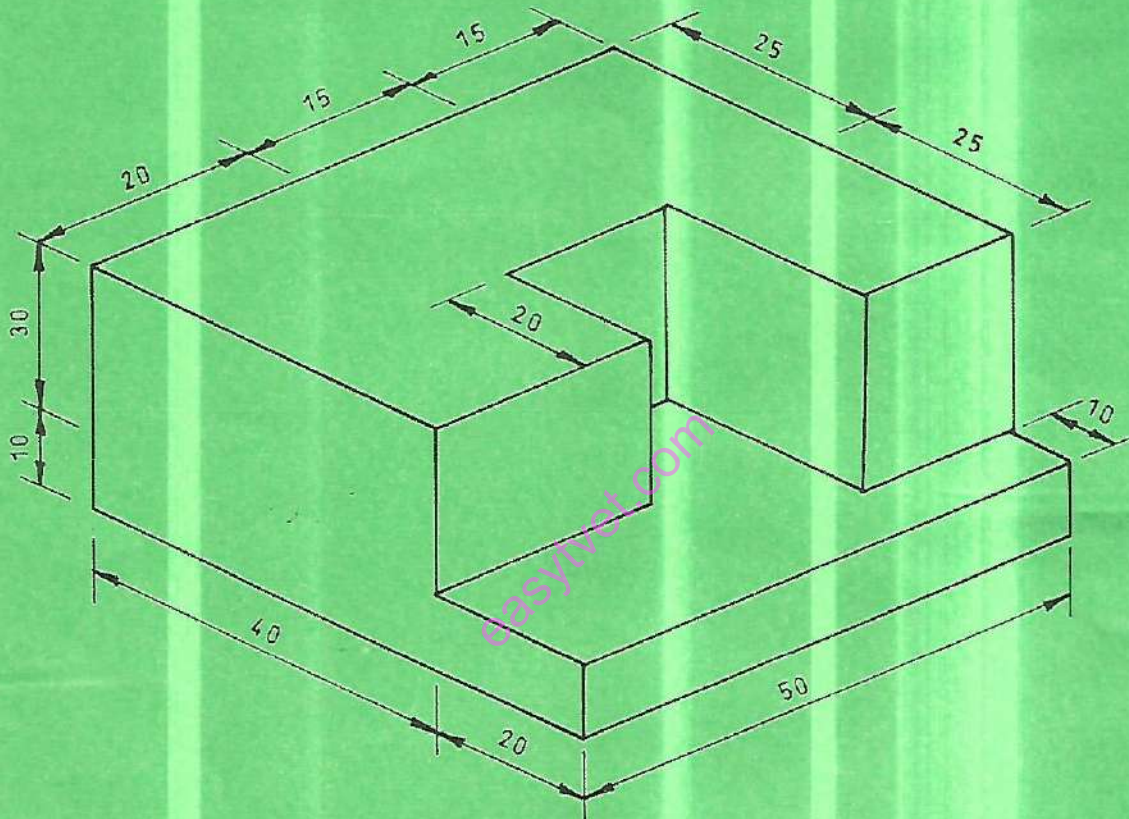

Fig. 3
3. **Figure 3** shows a pictorial drawing of a shaped block. Draw full size a one point perspective drawing using the following information: